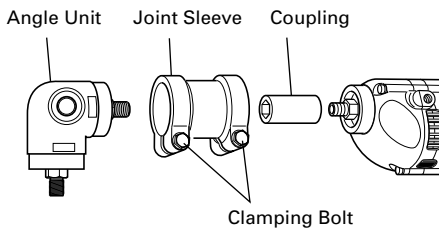

Fig. 8
(2) Attaching the angle unit.
- After removing the chuck, engage the coupling to the drill spindle. Fit the joint sleeve to the gear cover, attach the angle unit to the other end of the joint sleeve, and turn the angle unit slightly in either direction so the hex. hole in the coupling engages the hex. portion of the angle unit spindle. Adjust the direction of the angle unit and tighten the joint sleeve by clamping bolts. Tighten two clamping bolts equally and gradually in turn with a torque of 61-70 In-lbs. (70-80kg-cm) (extent of force which can be subjected by only a wrist with the open end wrench provided to tight clamping bolts.). (Fig. 8)